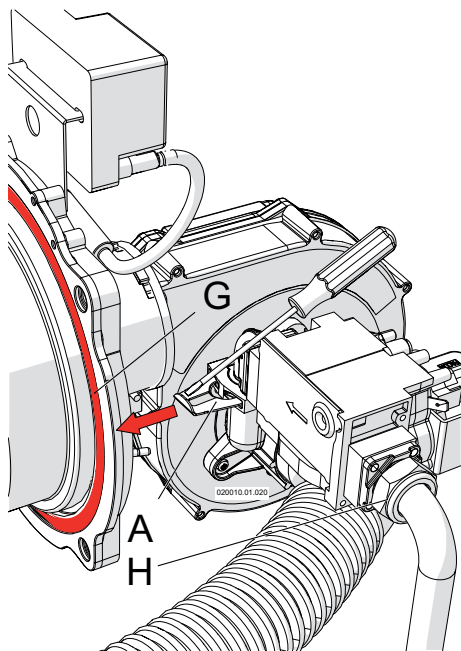
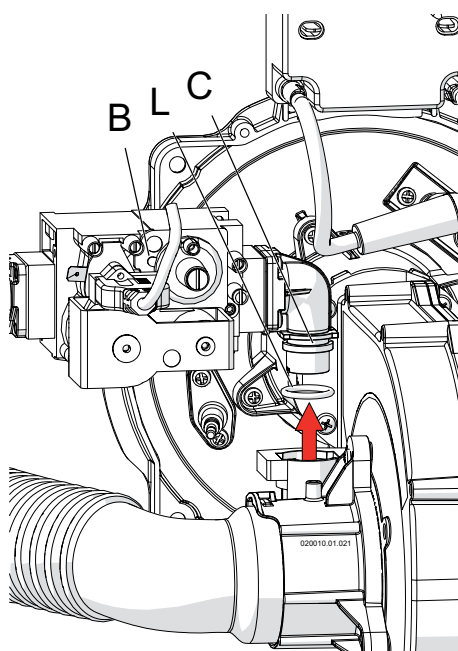

Figure 15-5 Nut and spring that fixes the gas valve
Figure 15-6 Remove the gas valve
7. unscrew nut "H" (Figure 15-5). Take care attention to the gasket between nut "H" (Figure 15-5) and the gas valve.
8. take away the spring "A" as per Figure 15-5. Help yourself with a screwdriver;
10. Remove the gas valve from its position (see Figure 15-6). Take care attention to the o-ring "L" of Figure 15-6;
17. replace gasket "G" as per Figure 15-5 (Part number for this gasket is 60703047).
! WARNING!!! Take care attention to the gasket "G" (Figure 15-5) during reassemble. When finish, perform on it a leakage test with the burner firing. Always use an approved leak detection method. Failure to comply with this warning can cause fire, extensive property damage, severe personal injury or death!
18. reassemble the components by proceeding in reverse order. Taking care attention in the reinstalling of gasket between nut "H" of Figure 15-5 and of the o-ring "L" of Figure 15-6. These must be in good condition. If not they must be replaced with some new one;